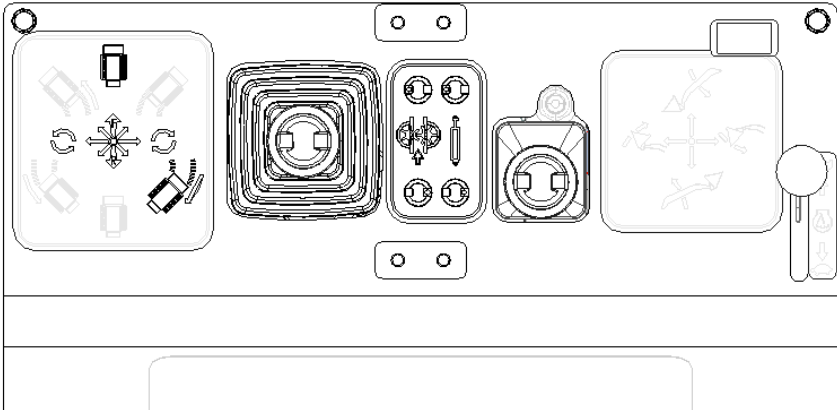

Figure 3-38 Auxiliary Attachment Controls
3. With your right hand, move the joystick per the decal on the machine (Item 1, **Figure 3-38**) towards the hand grip to activate the FORWARD motion of the attachment.